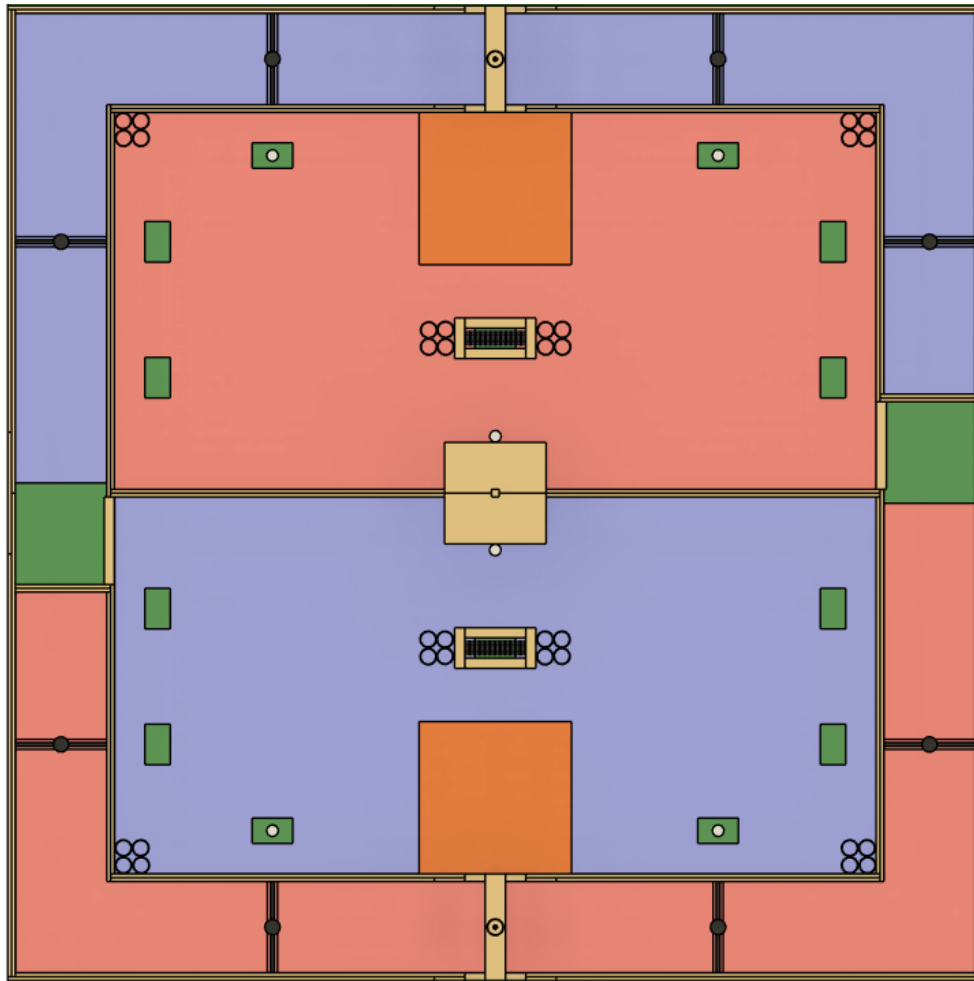

Figure 1: Top-Down Court View
- 3.1.4.2.2. The Autonomous Robot will start in the Transfer Zone, indicated by the green squares in Figure 1.